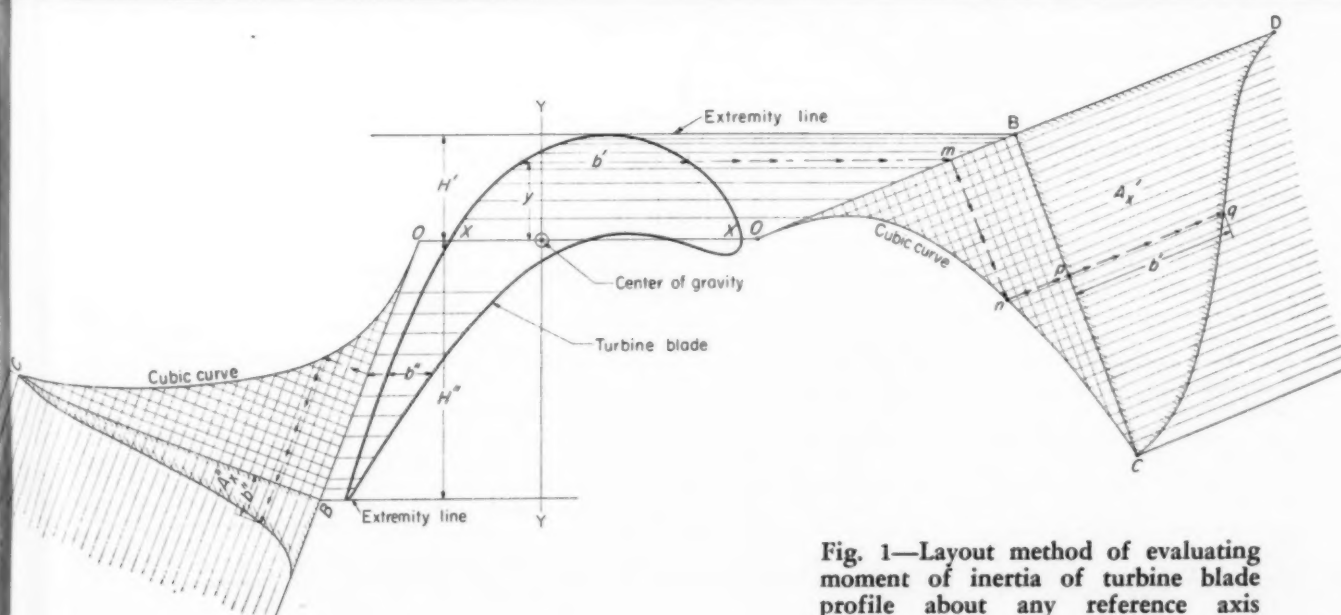
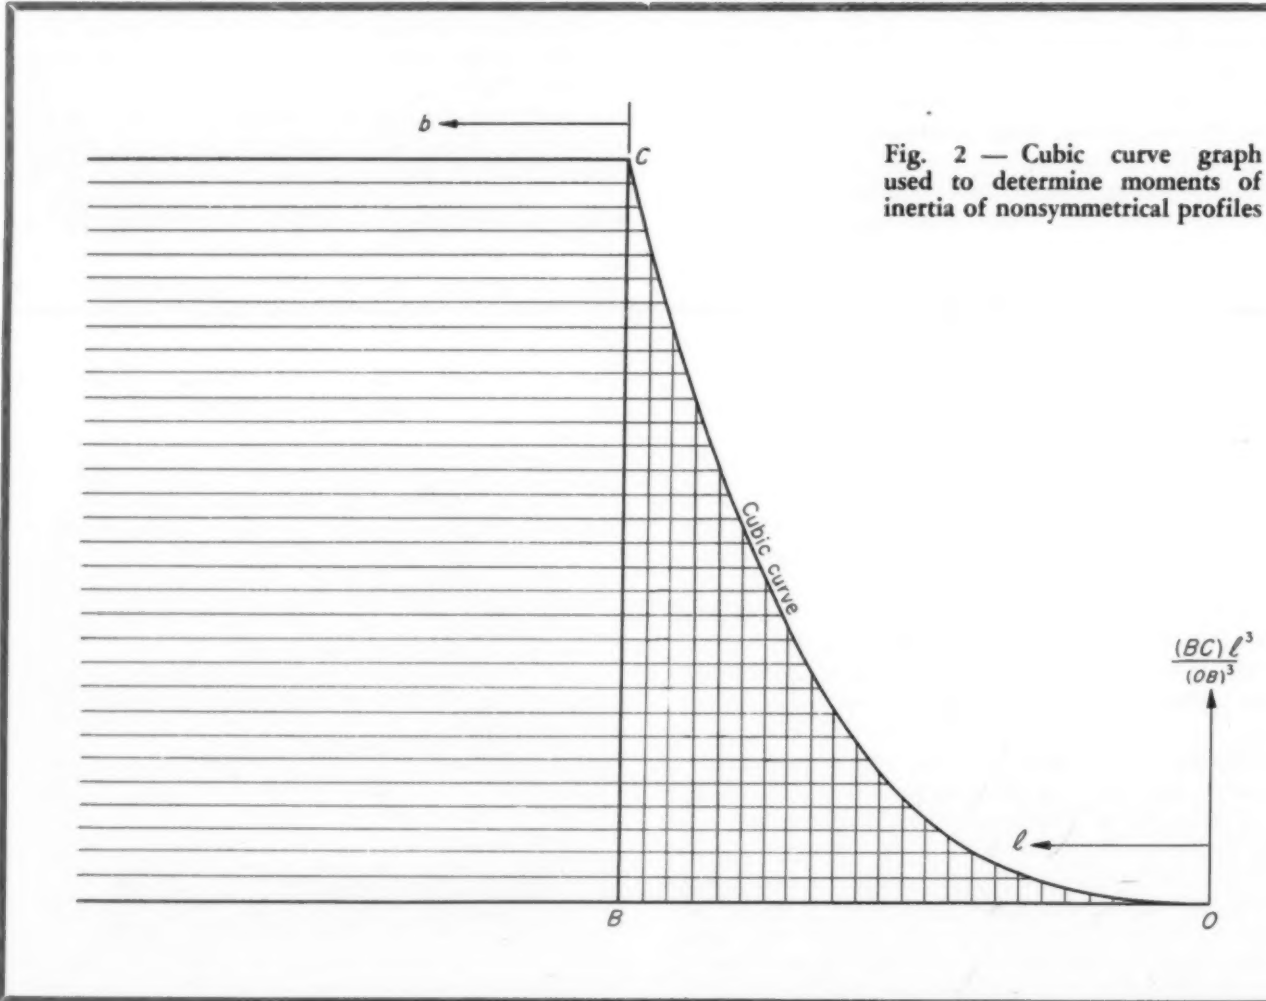

Fig. 1—Layout method of evaluating moment of inertia of turbine blade profile about any reference axis
Fig. 2 — Cubic curve graph used to determine moments of inertia of nonsymmetrical profiles
**I**N DESIGN, strength or vibration analysis of unsymmetrical structural cross-sections is frequently encountered. One difficulty with such profiles is that simple formulas are not available for the computation of their inertia. A typical example might be the turbine blade shown in Fig. 1. Its profile, although determined by nonstructural considerations, demands a rigorous structural analysis. For such an analysis, the major and minor principal moments of inertia must be evaluated.
Graphically this integral can be depicted as the area of the curve of  $by^2$  plotted against  $y$  where  $b$  is the length of each line parallel to the reference axis as shown in *Fig. 1* and  $y$  is the perpendicular distance measured from the reference axis to any stratum line  $b$ . To make a plot of such a curve requires tedious repetitive computations which can be eliminated by employing a graph of the cubic curve  $(BC)/(OB)^3 l^3$  versus  $l$  as shown in *Fig. 2*.
For flexibility in working with different profiles, curves such as shown in *Fig. 2* should be made in a variety of suitable sizes and a quantity of prints of each kept on hand. Sets of three sizes based on  $OB$  equal to 2, 5, and 10 inches are suitable for most applications. However analysis problems encountered will readily determine practical sizes to stock.
**GRAPHICAL METHOD:** The technique can be easily demonstrated by an analysis of the turbine blade profile shown scaled-up 8 times in *Fig. 1*. The center of gravity can be determined by the experimental method already presented. The moment of inertia of the profile about the arbitrary  $XX$ -axis can be determined by
2. Place a suitable size print of the cubic graph shown in Fig. 1 adjacent to the profile such that point  $O$  of leg  $OB$  lies on the reference axis line and point  $B$  lies on the extremity line. Leg  $OB$  must always be made longer than  $H$ , the distance between the reference axis and the parallel extremity line.